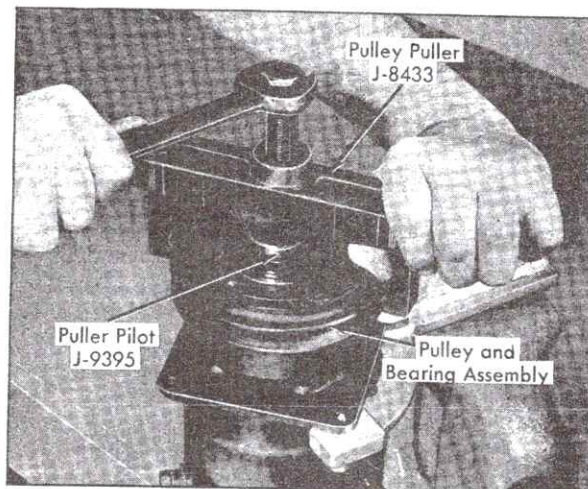

Fig. 1-35 Removing Pulley &amp; Bearing Assembly
4. Remove pulley and bearing assembly using Pulley Puller, J-8433, Fig. 1-35.